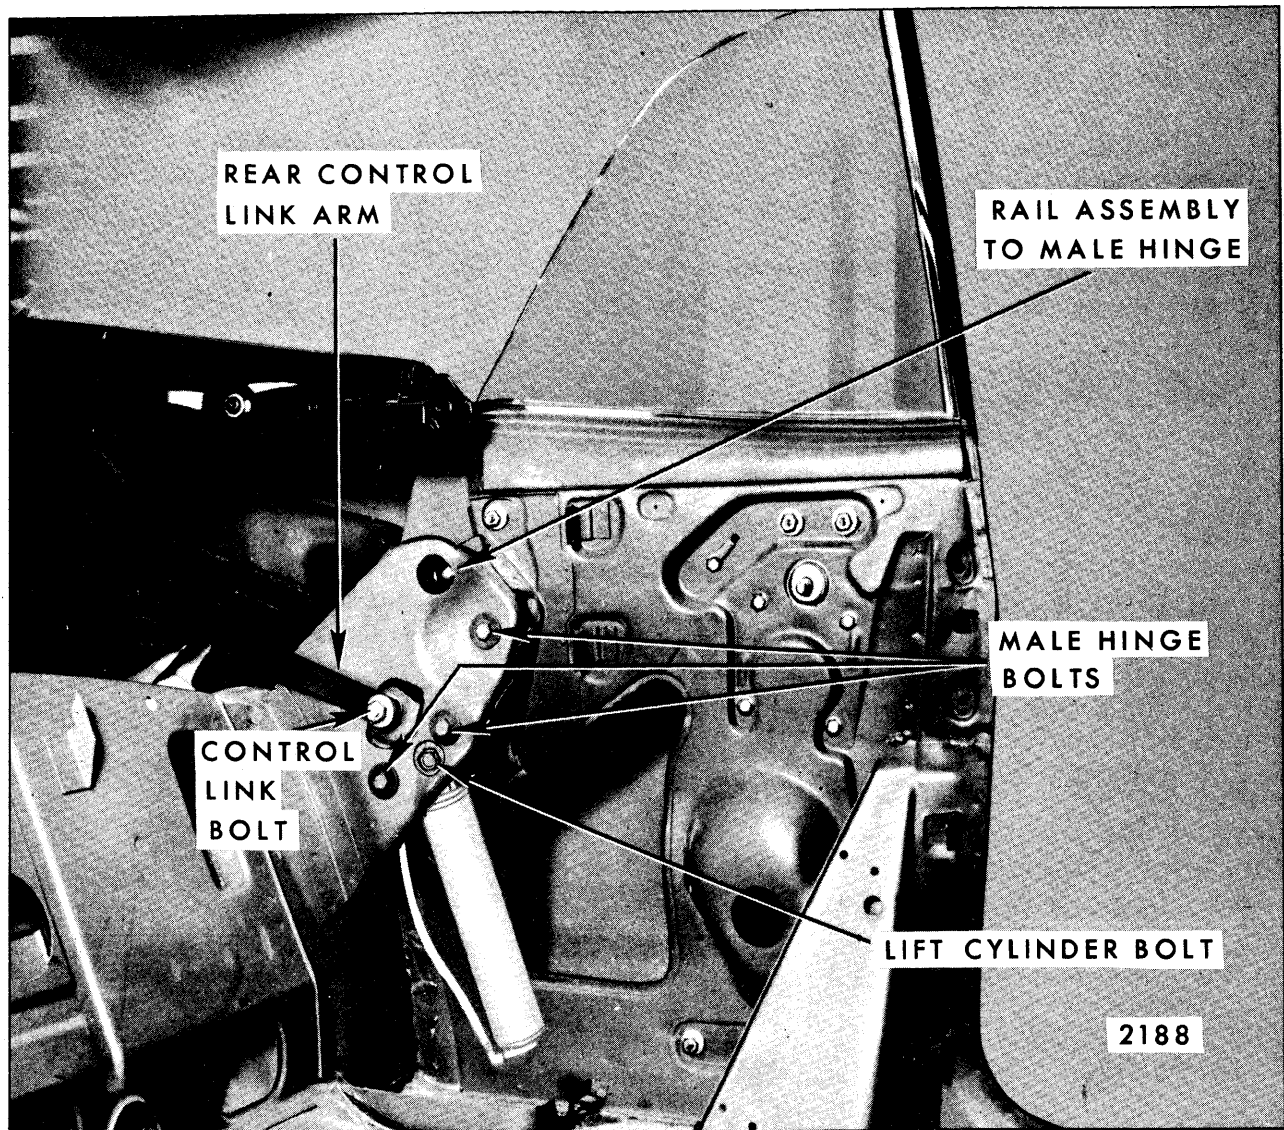

Fig. 6-81—"A" Body Convertible Top Linkage Attachments
- b. Loosen one bolt securing control link sufficiently to permit adjustment of link (See Fig. 6-81).
- b. Loosen male hinge assembly (Fig. 6-81).
- b. Loosen male hinge assembly (see Fig. 6-81).
- c. Rotate male hinge forward to lower stack height or rearward to raise stack height (Fig. 6-81).
- NOTE:** When rotating male hinge be certain position of rear rail to male hinge is maintained (Fig. 6-81).
2. Male hinge assembly misaligned.	Adjust male hinge assembly rearward. (Fig. 6-81).
1. Improper stack height due to misaligned male hinge assembly.	Rotate male hinge forward or rearward as required. (Fig. 6-81).